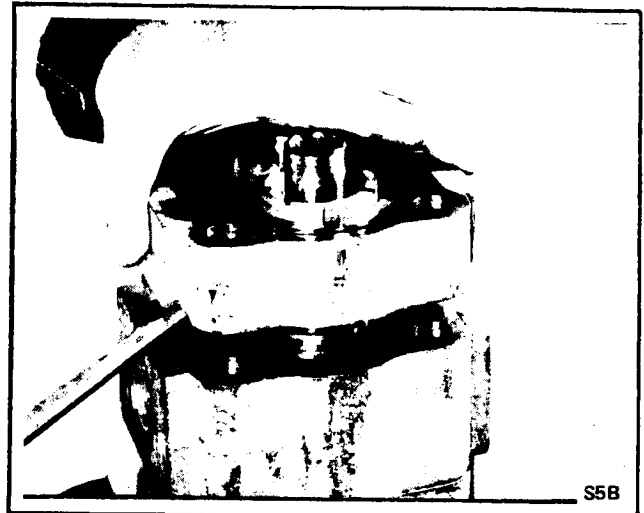

Fig. 6 - Lifting Off Gear Housing
4. Lift the gear housing from the gears. If necessary to pry loose, take care not to damage the machined surfaces.\* See Fig. 6.